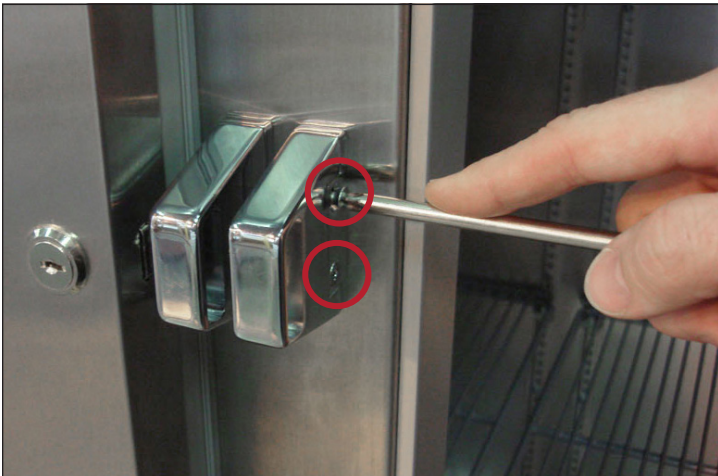

Fig. 5. Lock latch screw locations.
9. Remove the lock latch. See fig. 5.